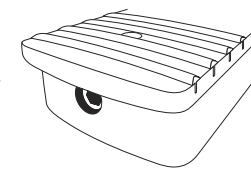

Figure 6: Truss Rod Inside Neck Pocket
**Note:** If your truss rod nut access is not visible, it is possible your instrument has it located inside of the neck pocket (Figure 6) – this will require the neck to be taken off of the body to adjust the truss rod.